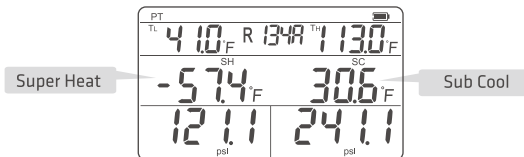

FIG.2 Diagram of Superheat and Subcooling Sub Mode
- Short press the **MODE** key to enter the sub mode of superheat and subcooling, the interface [FIG.2] displays the measured pressure, temperature, superheat and subcooling values at the high and low pressure sides.